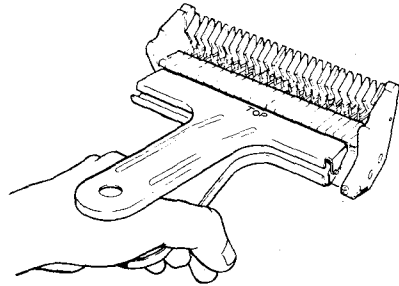

Fig. 97—Remove cover.
- p. Remove the cover of the existing module in the head using the 4053 Cover Removal Tool. See Figure 97.